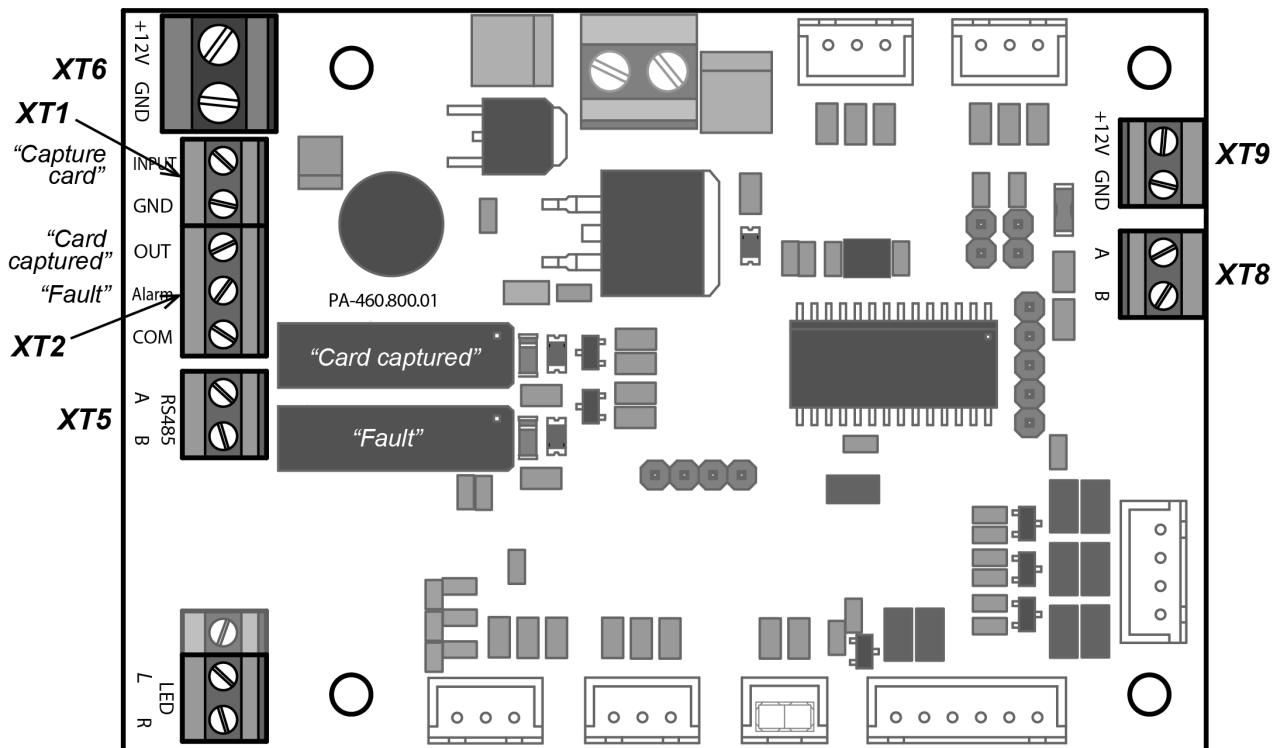

Figure 10. PA-450 control board of the card capture reader
3. If the presented card is a temporary visitor card and requires the withdrawal, the ACS controller gives the control signal to the control board input of the card capture reader “*Capture card*” (contact “*INPUT XT1*”, see Fig.10). The illumination of the card slot will start flashing with a frequency of 2 times per second, indicating that the card is to be withdrawn.
(contact "OUT" **XT2**, Fig.10) a control signal is sent, which is a confirmation of the passage for the ACS controller. After this signal, the ACS controller allows the passage in the given direction (gives the corresponding signal to the turnstile control mechanism) and after the passage through the turnstile removes the signal "Capture card". By removing the "Capture card" signal, the card reader removes the "Card captured" signal.
- The third optical sensor of the card capture reader tracks the fact of filling of the card collector. When it is full, the card capture reader sends an "Fault" signal (contact "Alarm" **XT2**, Fig.10), to the ACS controller, the illumination of the receiving slot of the card capture reader goes into the flashing mode with a frequency of 1 time in 2 seconds, thereby warning about the need to free the collector from the withdrawn cards. If the collector is not emptied, then after receiving 10 more cards, the work of the card capture reader is blocked, the illumination of the receiving slot is extinguished. The unlocking of the card capture reader is automatically after the card collector is emptied (the algorithm of removal and installation of the card collector is given in Clause 9.5). Also, the "Fault" signal is sent to the ACS controller in case of malfunction of the card capture reader mechanism (the illumination of the receiving slot is extinguished).
The control board overall view is shown in Fig. 10. On the board there are terminal blocks: